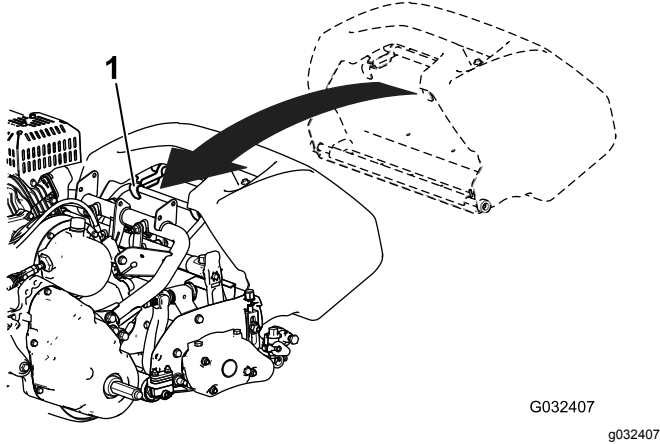

Figure 11
1. Grasp the basket by the handle (Figure 11).
2. Guide the basket lip between the cutting unit side plates and over the front roller (Figure 11).
3. Install the basket hooks over the frame loop (Figure 11).